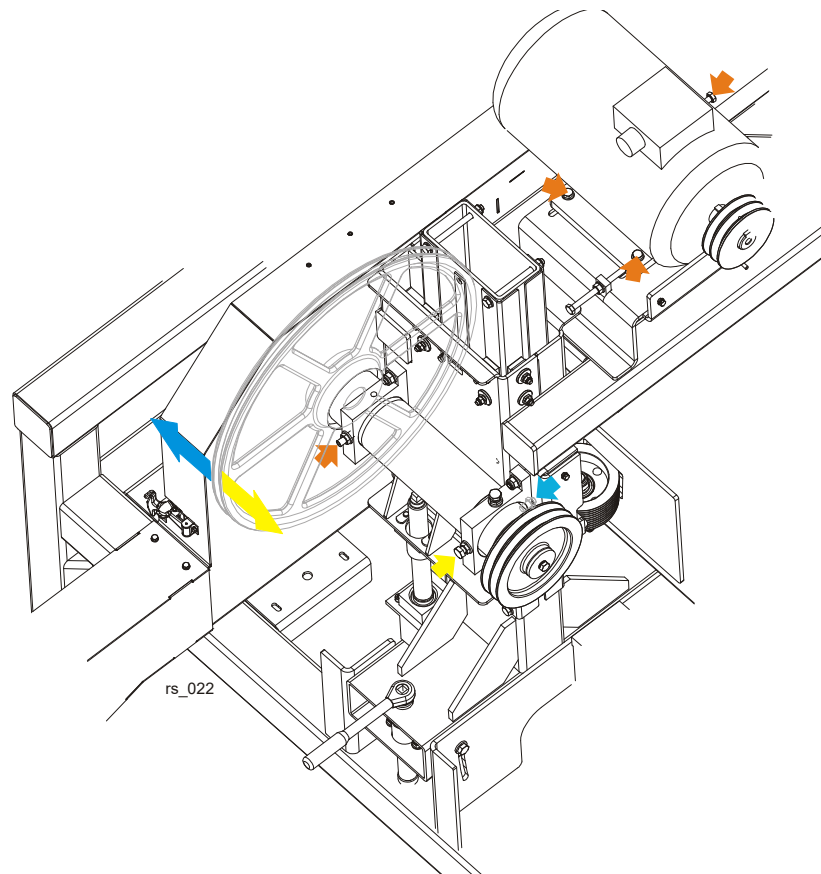

FIG. 5-8
**See Figure 5-8.** Use the horizontal adjustment screws (marked with the blue and yellow arrows in the figure below) to adjust the drive-side blade wheel. Before adjusting the wheel, loosen the drive belt using the adjustment bolts marked with the orange arrows in the figure.